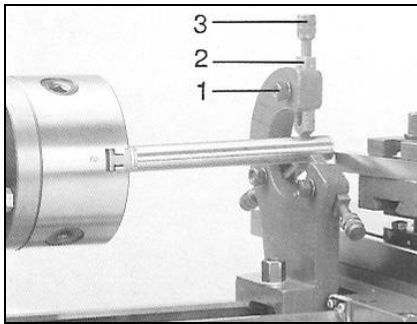

Fig 20
Tighten knurled screws (3, Fig 20) so that fingers (2) are snug but not tight against work piece. Tighten nuts (1).